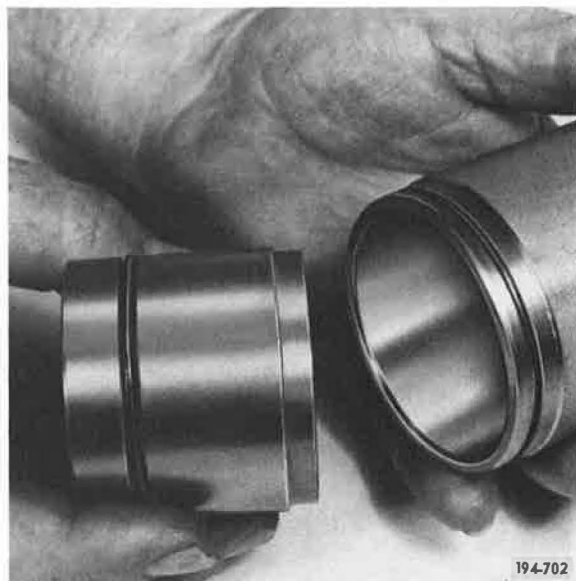

Figure 159. Removing Piston
13. Remove Lo/Hi range piston from Lo/Hi shift cylinder. See Figure 159.